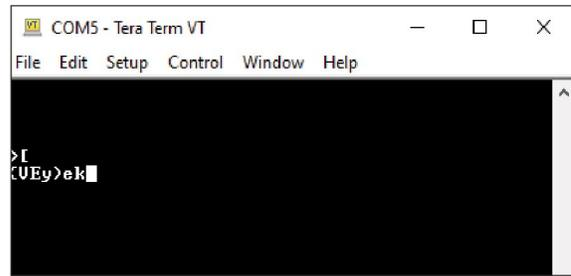

Figure 29. View sensor information
- Type  in the COM window ([Figure 29) to enter the direct communications mode on the PROCHECK when connected to the ATMOS 41.
When the sensor address is 0, the returned DDI string will look like a random string of characters (e.g., {UEy)ek) after entering the direct communications mode (Figure 29).